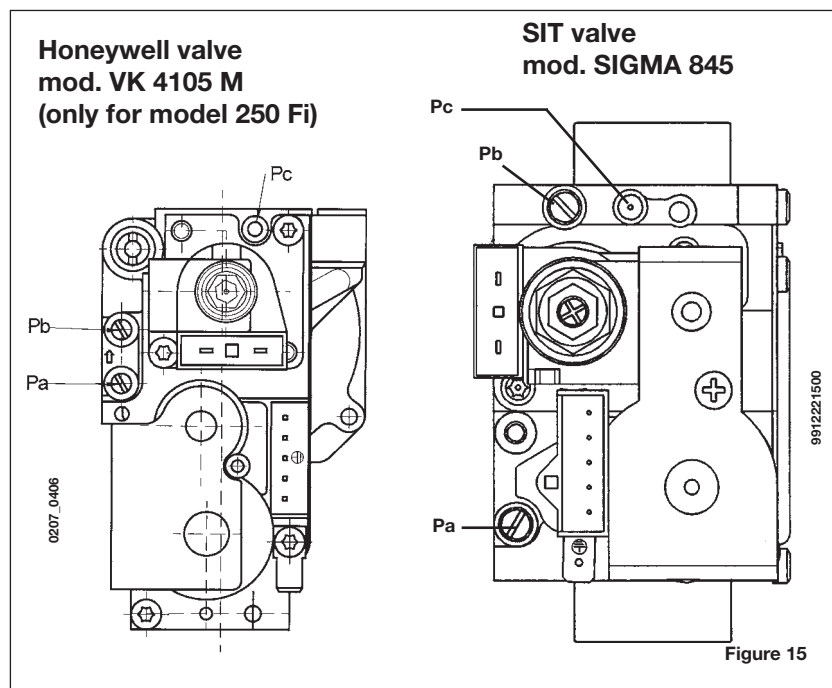

Figure 15
The authorised Technical Assistance Service can convert this boiler to natural gas (G20) or liquid gas (G31). The procedure for calibrating the pressure regulator varies slightly according to the type of gas valve fitted (HONEYWELL or SIT, see figure 15).
- connect the positive pressure test point of a differential pressure gauge (possibly water-operated) to the gas valve pressure test point (**Pb**) (Figure 15).
- make sure that the dynamic inlet pressure of the boiler, measured at the gas valve pressure test point (**Pa**) (Figure 15) is correct (**37 mbar for propane** or **20 mbar for natural gas**).